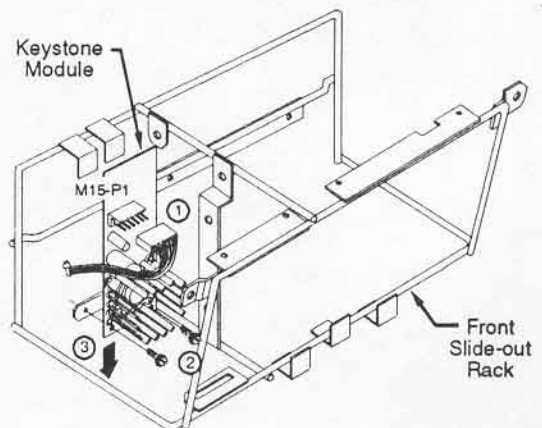

Figure 5-19. Keystone Module Removal
- c) Disconnect connector P1 from the Keystone Module. See Figure 5-19.